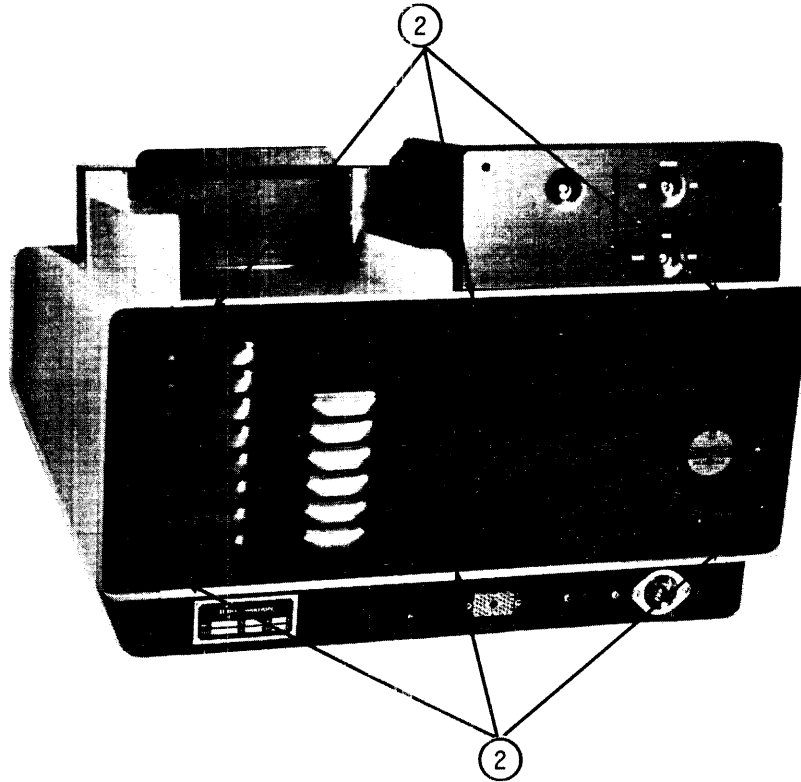

Figure 6-2. Rear Panel Removal
- c. With the front panel and top cover removed, remove the rear panel. The rear panel is also held in place by 6 screws 2 figure 6-2.